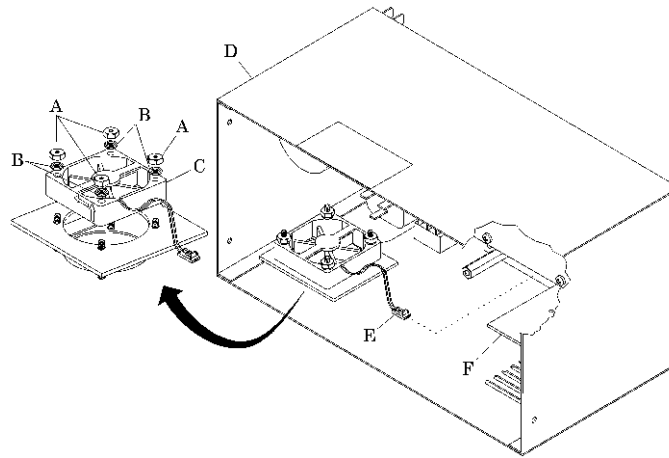

Fig. 53 Controller Fan Assembly
- 9 Using a 7/32" socket wrench, remove the four hex nuts (Fig. 53/A) and the four O-rings (Fig. 53/B) that secure the fan assembly (Fig. 53/C) to the controller assembly (Fig. 53/D).
- 10 Disconnect the fan assembly cable (Fig. 53/E) from the interface/power supply module (Fig. 53/F).
- 11 Remove and discard the fan assembly (Fig. 53/C) from the controller assembly (Fig. 53/D).